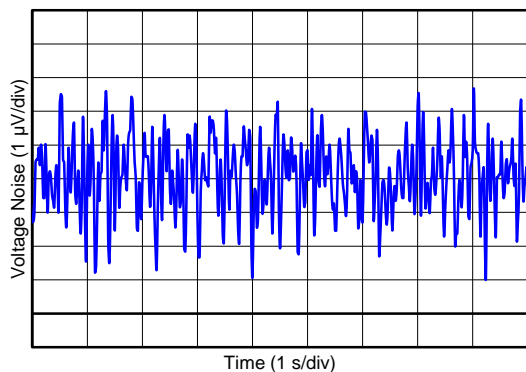

Figure 11. 0.1-Hz TO 10-Hz INPUT VOLTAGE NOISE
0.1-Hz to 10-Hz Input Voltage Noise (5.5 V)	Figure 11